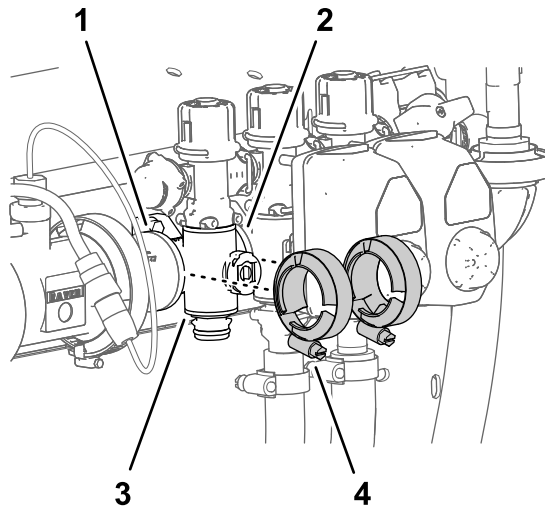

Figure 115
4. Loosely assemble the flange clamps that you removed in Removing the Section-Manifold Valve \(page 77\) to the flanges of the section-valve manifold and the flanges of the other section-valve (s) and/or coupling adapter (Figure 115).
7. Tighten the 2 flange clamps by hand (Figure 115).